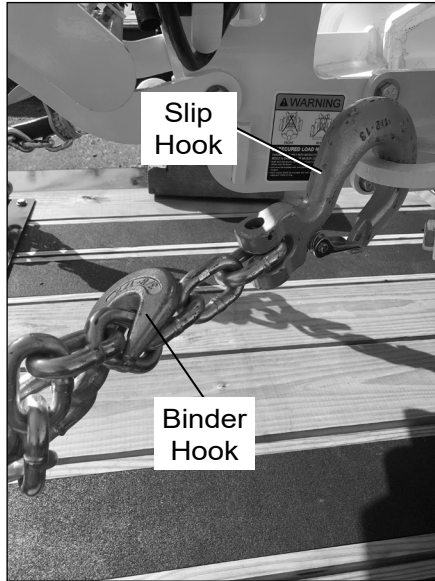

Figure 11 – Correct Hook Engagement
6. When installing the chains to secure the unit to the trailer for transport, the grab hooks on the chain binder must not be allowed to contact the slip hooks (hooks with spring-loaded latches) on the tie down chains (refer to Figures 11 and 12). Improper link contact is likely to happen when the binder hook is connected to the second link from the slip hook. The chain installation requirement is stated in an insert that will be added to the Operator's and Maintenance Manuals and on new Warning placards that will be added to the trailer as part of the tie down system updates.